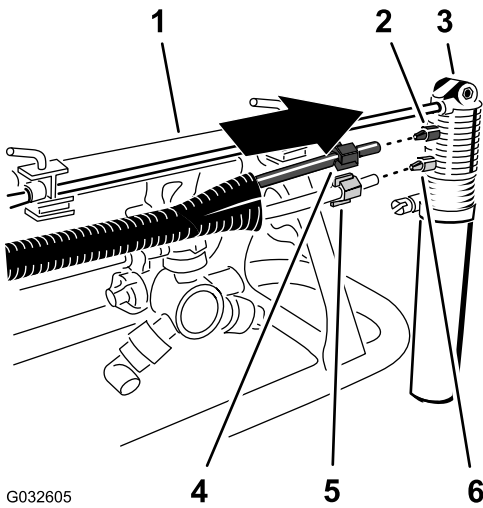

Figure 29
1. Slip the blue compression nut over the ends of blue tube and the white compression nut over the clear tube (Figure 29).
2. Align the end of the clear tube with the white compression nut to the white fitting of the foam-marker nozzle, and tighten the compression nut by hand (Figure 29).
3. Align the end of the blue tube with the blue compression nut to the blue fitting of the foam-marker nozzle, and tighten the compression nut by hand (Figure 29).